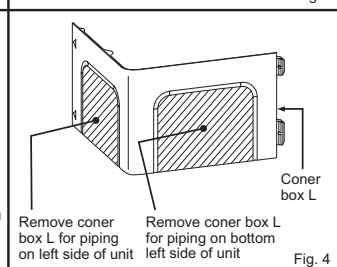
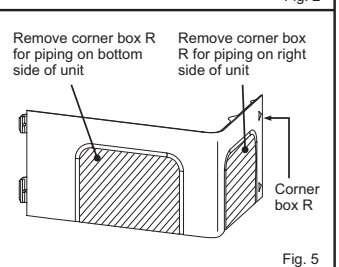

Fig. 4
Fig. 5
- According to the piping direction, remove the shaded part of the corner box L (Fig. 4) or corner box R (Fig. 5). Reinstall electrical cover, corner box R and front panel.
- Insert the drain hose fully into the drain pan at the back right of the indoor unit. (Fig. 4)
- Insert the drain hose into wall hole sleeve (C), and attach the upper part of indoor unit onto the installation plate (1). Then, shift the indoor unit completely to the left to make placing the piping in the back of the unit easier.
- Cut out a piece of cardboard from the shipping box, roll it up, hook it onto the back rib, and use it as a spacer to lift the indoor unit. (Fig. 5)
- Connect the refrigerant piping with the extension pipe (B).
- Attach the lower part of the indoor unit into the installation plate (1).
- 4) Flaring work (Fig. 4, 5). Firmly hold copper pipe in the dimension shown in the table. Select A inch (mm) from the table according to the tool you use.